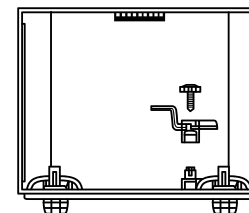

Figure 1
- Place the water pump knob on the corresponding installation column of the water tank as shown in Figure 1 below.